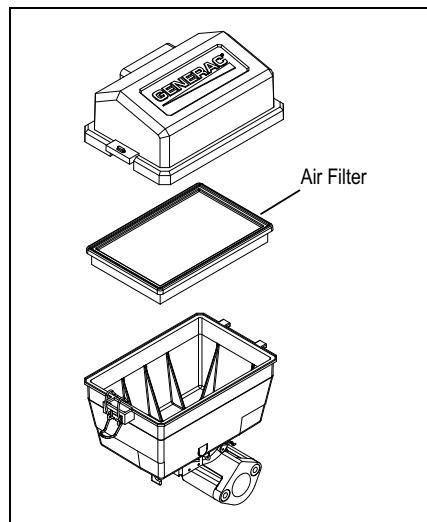

Figure 4-4: Air Filter Location
2. Disengage the wire clip and remove the air cleaner access cover. See Figure 4-4.